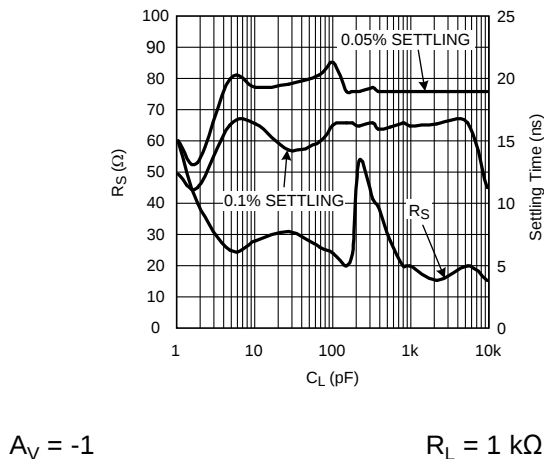

Figure 27. R_S and Settling Time vs C_L
3. Fast settling in less than 20 ns (see Figure 27).
The series resistor, R_S , between the amplifier output and the ADC input is critical to achieving best system performance. This load capacitance, if applied directly to the output pin, can quickly lead to unacceptable levels of ringing in the pulse response. Figure 27 in Application Curve (R_S and Settling Time vs C_{IN}) is an excellent starting point for selecting R_S . The value derived in that plot minimizes the step settling time into a fixed discrete capacitive load with the output driving a very light resistive load (1 k Ω). Sensitivity to capacitive loading is greatly reduced once the output is loaded more heavily. Therefore, for cases where the output is heavily loaded, R_S value may be reduced. The exact value may best be determined experimentally for these cases.